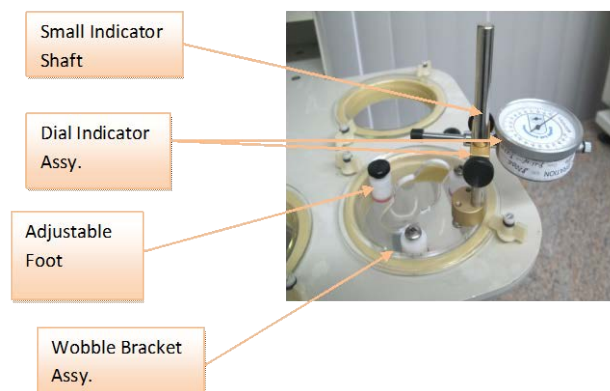

Figure 10
4.5.1.1 The paddle wobble can be measured by assembling the dial indicator assembly, small indicator shaft and wobble bracket assembly as shown in Figure 10.
4.5.1.2 Place the wobble meter onto the top of the dissolution vessel and move the adjustable foot in or out until the assembly is secured to the inside of the vessel as shown in Figure 10.
4.6.1.1 The basket shaft wobble can be measured by assembling the dial indicator assembly, small indicator shaft and wobble bracket assembly as shown in Figure 10.
4.6.1.2 Place the wobble gage onto the top of the dissolution vessel and move the adjustable foot in or out until the assembly is secured to the inside of the vessel as shown in Figure 10.
4.7.1.1 The basket wobble can be measured by assembling the dial indicator assembly, small indicator shaft and wobble bracket assembly as shown in Figure 10.
4.7.1.2 Place the wobble gage onto the top of the dissolution vessel and move the adjustable foot in or out until the assembly is secured to the inside of the vessel as shown in Figure 10.
NOTE: For VanKel / Varian Dissolution Testers, the Shaft Collar is not required. Use the adjustable stop located on the left rear leg to adjust the position of the drive head. See Figure 10.